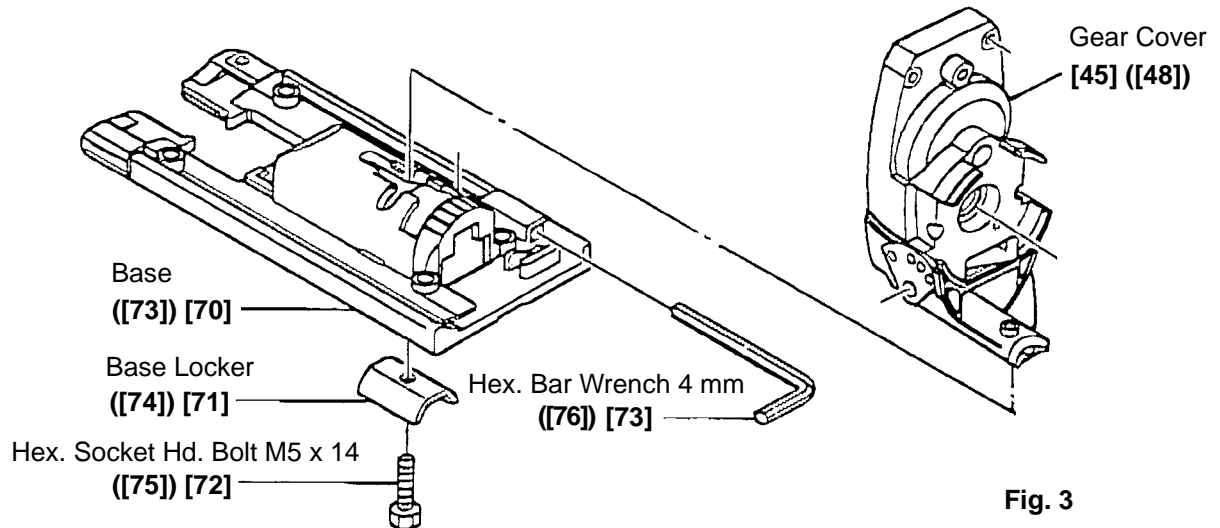

Fig. 3
(1) Disassembly of the Base **[70]** **([73])** (Fig. 3)